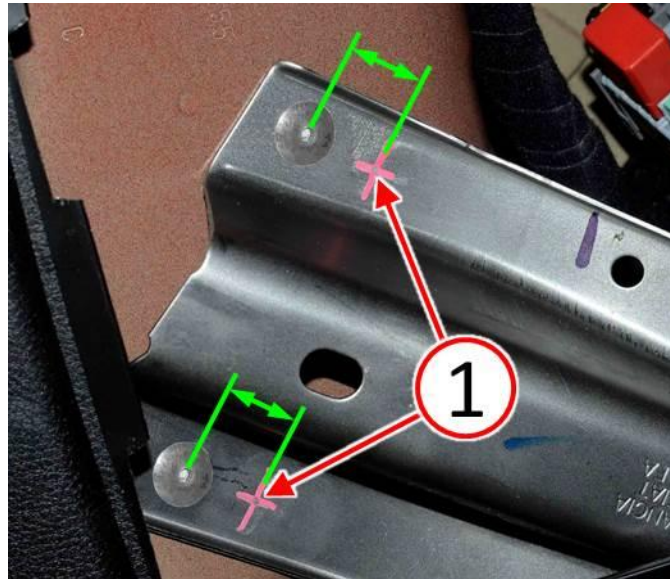

Fig. 2 Measure Mark And Center Punch Rivet Hole Locations
3. Measure, mark and center punch new hole locations (1) approximately 22 mm (.86 in.) from the previous rivets as shown in (Fig. 2). Perform this step for both the left and right rear quarter trim panel support brackets.